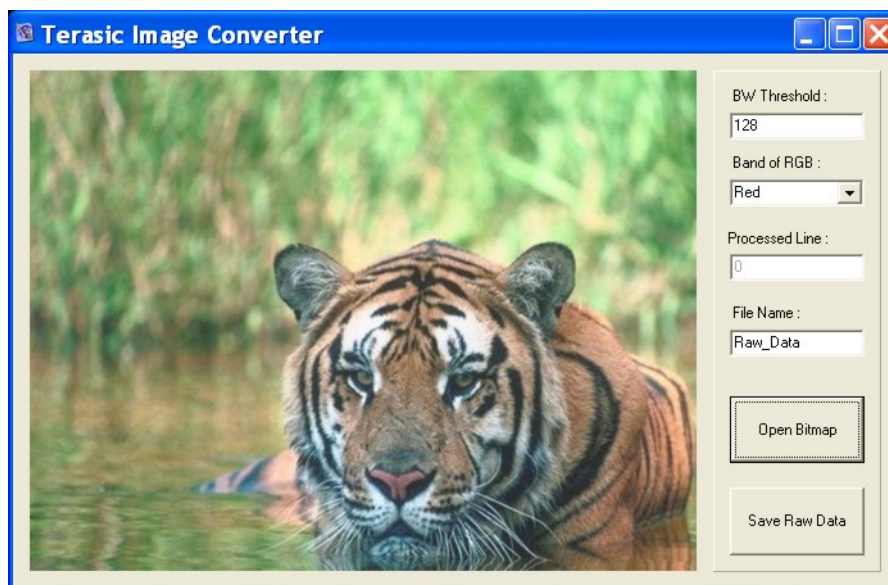

Figure 3.13. The image converter window.
3. Execute *DE1_control_panel\ImgConv.exe*, an image conversion tool developed for the DE1 board, to reach the window in Figure 3.13.